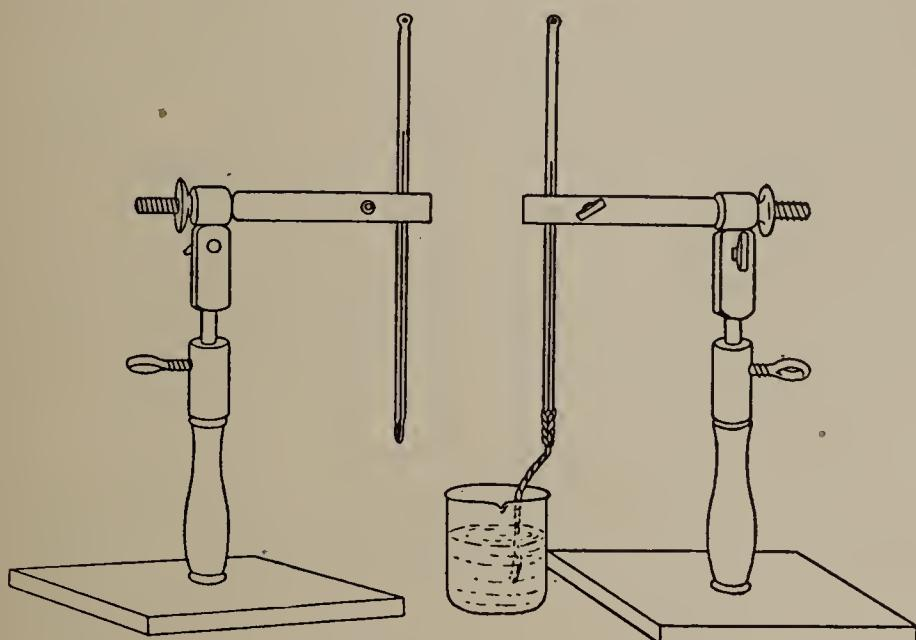

FIG. 45.
- (a) Place two thermometers in wooden supports as in Fig. 45. Fit a wick over the bulb of one thermometer and let the lower end of the wick dip into a beaker of water.